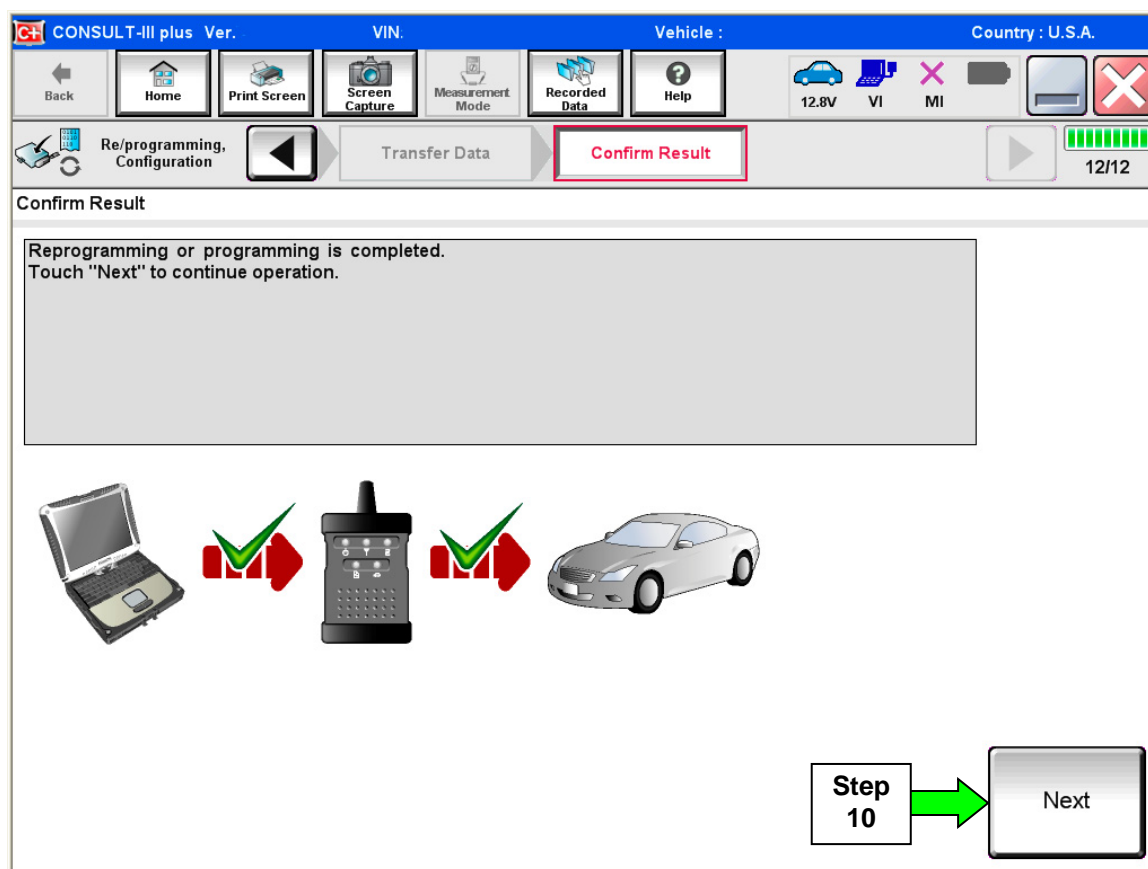

Figure 4
8. When the screen in Figure 4 displays, reprogramming is complete.
NOTE: If the screen in Figure 4 does not display (indicating that reprogramming did not complete), refer to the information on page 8.